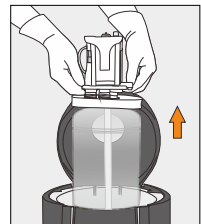

Figure 21
2. Pull CrystalFlo™ Water Cartridge upwards to remove (Figure 21). Do not squeeze the water reservoir as water could leak out. In addition, it may be helpful to have a bucket nearby to place the used CrystalFlo™ in.